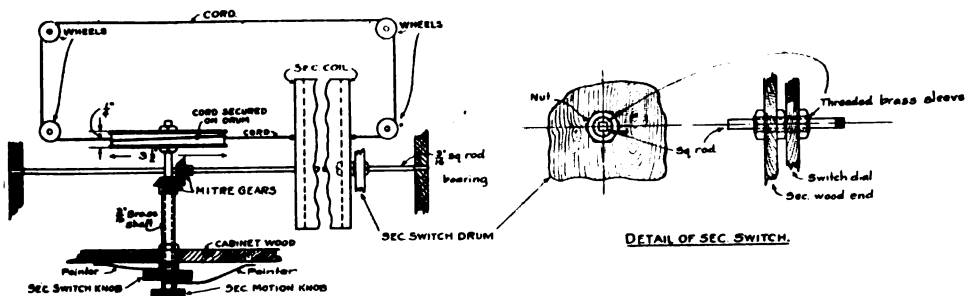

Fig. 3, First Prize Article
The movement of the secondary coil with its rotary control knob is effected by means of a strong cord running around the inside of the cabinet from small pulleys; the cord has its free end secured to the opposite ends of the secondary coil. As shown more in detail in Fig. 3 the cord also passes around a grooved fibre or wood drum and is fastened to the drum in such a manner that when the latter is rotated the cord is pulled, which in turn slides the secondary along two round brass rods which pass lengthwise through the coil.
**SECONDARY CONTROL HANDLES.**—The method of arranging the secondary control knobs is shown in detail in Fig. 3. As indicated in Fig. 2, in this arrangement also, one knob shaft turns independently and freely within the shaft of the larger knob, thus greatly simplifying the adjustment features of the instrument.
By reference to Fig. 3, as has been previously mentioned, it will be observed that the secondary motion knob controls the moving of the secondary coil in or out of the primary by means of a fibre or wood drum about 3½ inches in diameter secured to the end of the shaft. The secondary dial switch is rotated by means of a small square brass shaft passing through the secondary coil. This shaft may be rotated about its axis by a mitre gear secured to it. This gear is in mesh with a second similar mitre gear mounted at right angles to the first gear on the knob control shaft.